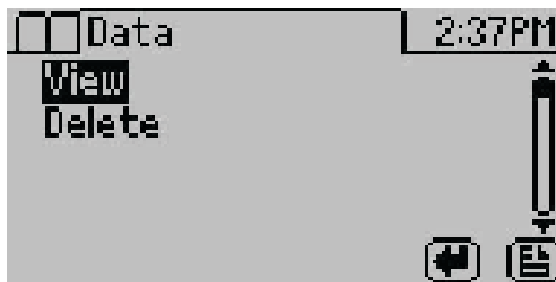

Figure 5 Data tab
1. Press **MENU** to navigate to the Data tab (Figure 5).